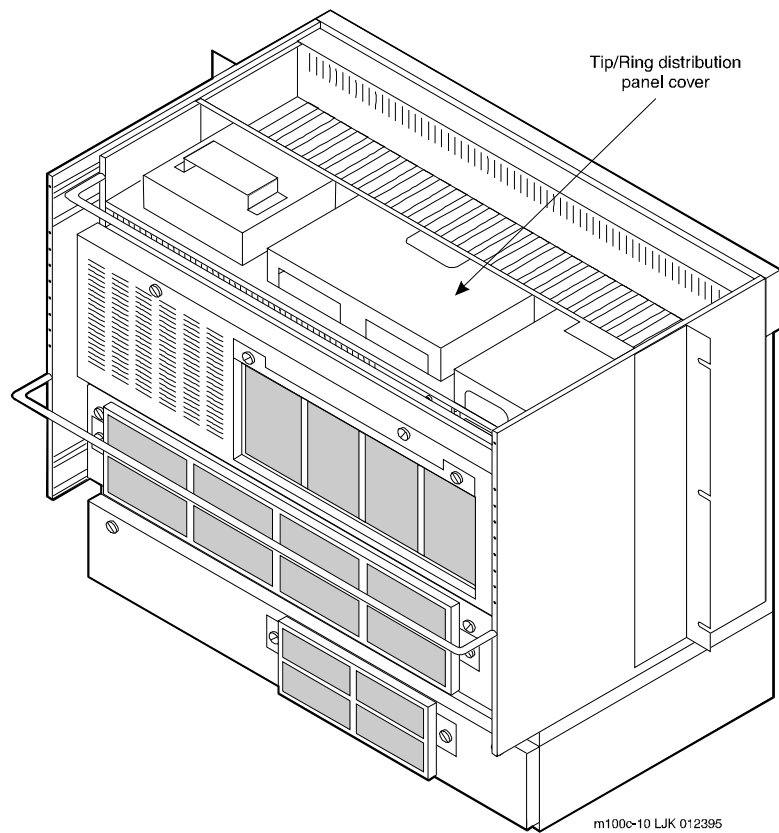

Figure 8-3. MAP/100C Tip/Ring Distribution Panel
7. Remove the seven screws that secure the distribution panel cover. This cover is located on the top of the MAP/100C and extends approximately 1-1/2 in. out from the chassis (Figure 8-3).